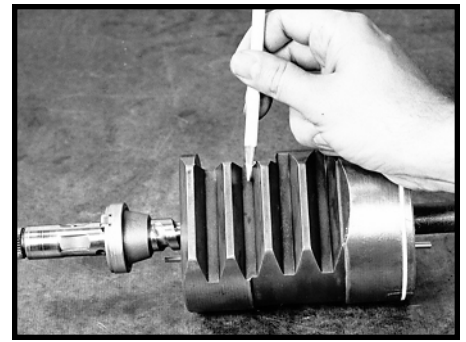
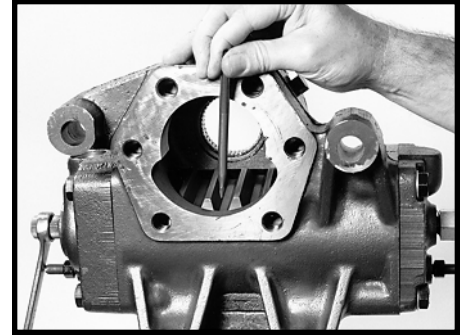

Figure 146
Figure 147
39. There are four teeth on the rack piston (31). SEE FIGURE 146. Position the rack piston so that the tooth space identified by the pencil, it is the space between the second and third teeth, is in the center of the sector shaft opening. SEE FIGURE 147. This will center the rack piston in the opening.